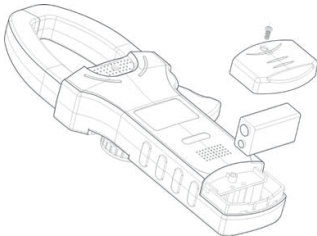

Figure 11
B. Replacing the Battery (See Figure 11)